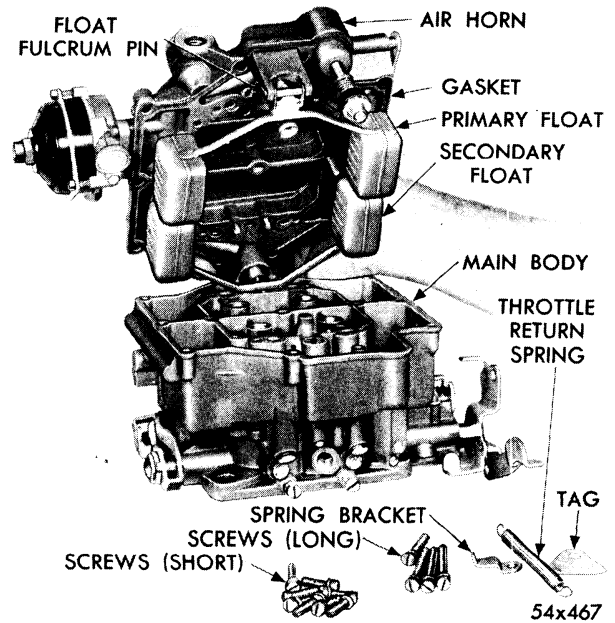

Fig. 9—Removing or Installing Air Horn
- (6) Remove the sixteen screws and lockwashers that hold the air horn to the main body, and disconnect the secondary throttle return spring.
- (7) Using finger pressure only, lift air horn assembly up and away from main body, as shown in Figure 9.
- (8) Removing the air horn assembly, be sure and lift air horn straight up and away from main body in order not to bend or damage the floats, accelerator pump plunger or vacuumer piston.